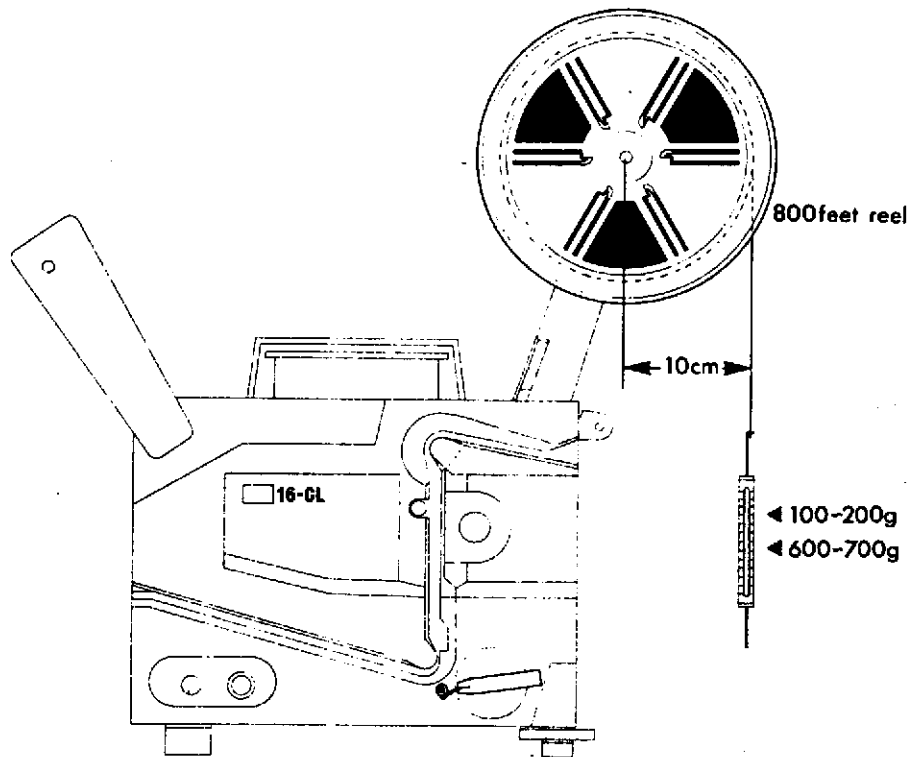

Fig. 20
- (1) As shown in Fig. 20, wind film on attached Reel until the diameter of wound film comes to 20cm.
- (2) Set Main Knob at "●" position and measure the tension as illustrated in Fig. 20.
- \* Change the pressure of Fig. 21-3 by turning Fig. 21-2 in order to adjust the tension to 600-700gr. (Refer to Fig. 20)